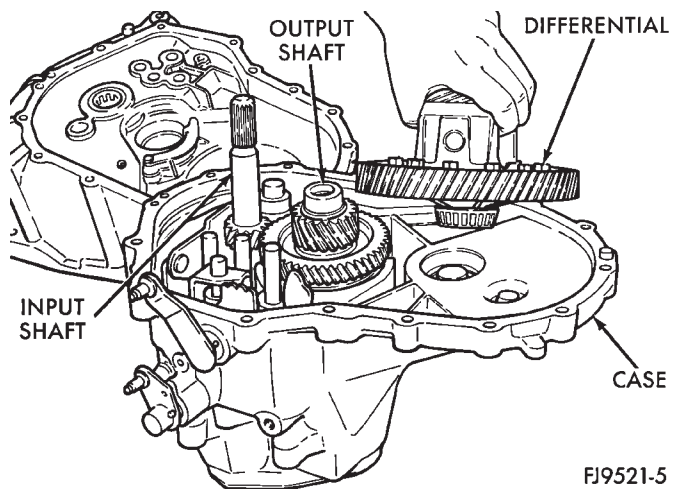

Fig. 84 Differential Assembly
(20) Install differential into gear case (Fig. 84).